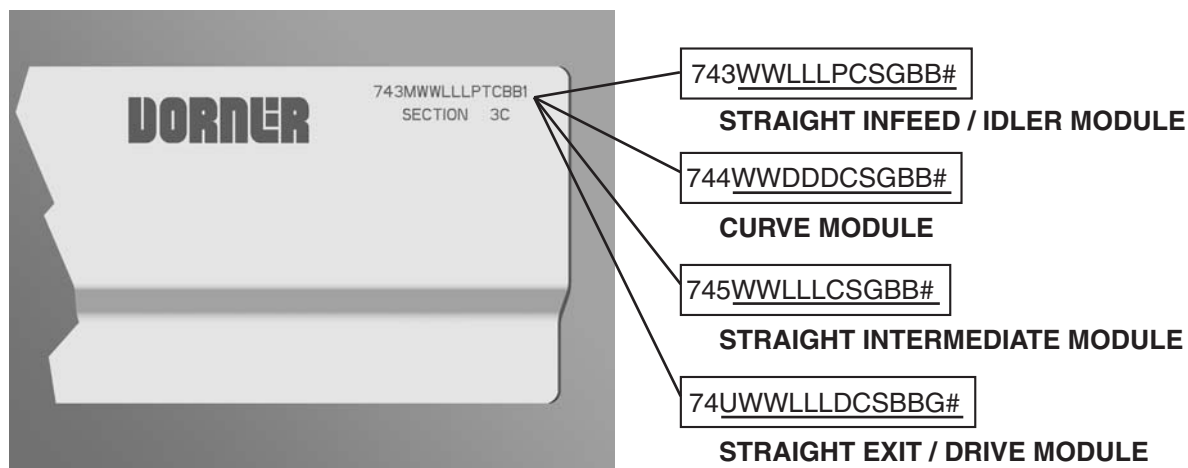

Figure 90
Refer to your serial and model number plate (**Figure 90**). From the model number, determine conveyor width (WW), length (LLL), pulley type (P), stand location, cleaning options (C), stand holes (S), guide profile (G), belt material (BB), degree of turn (DDD), drive/pulley type (D) and module serialized sequence (#).